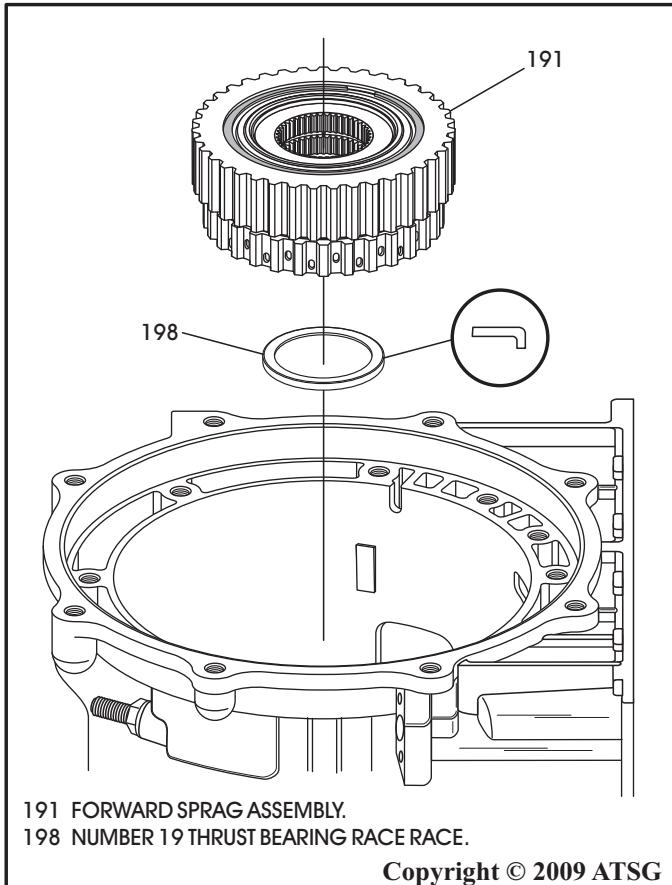

Figure 64
65. Remove the forward sprag assembly, as shown in Figure 64.
66. Remove number 19 thrust bearing race from the hub in case, as shown in Figure 64.